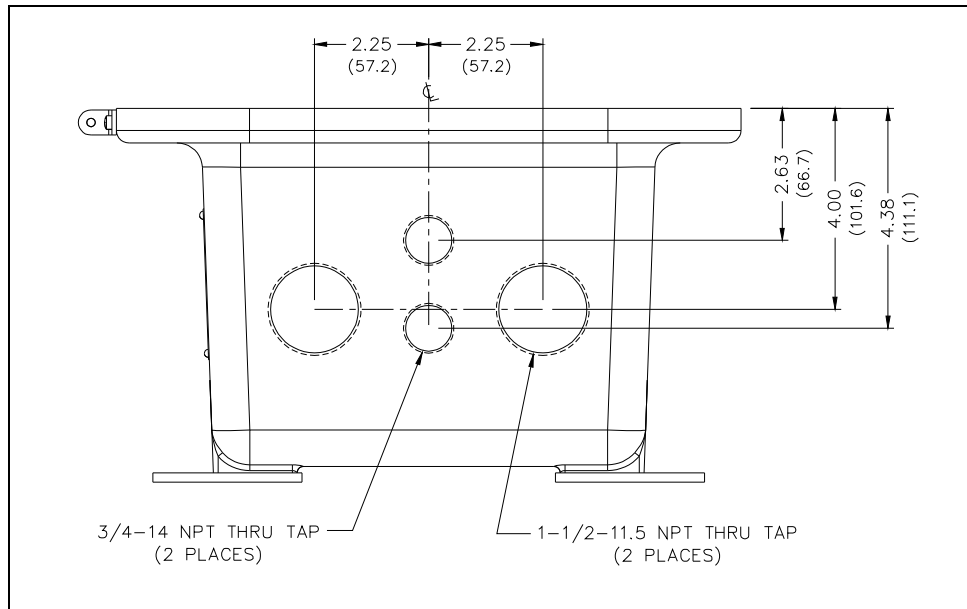
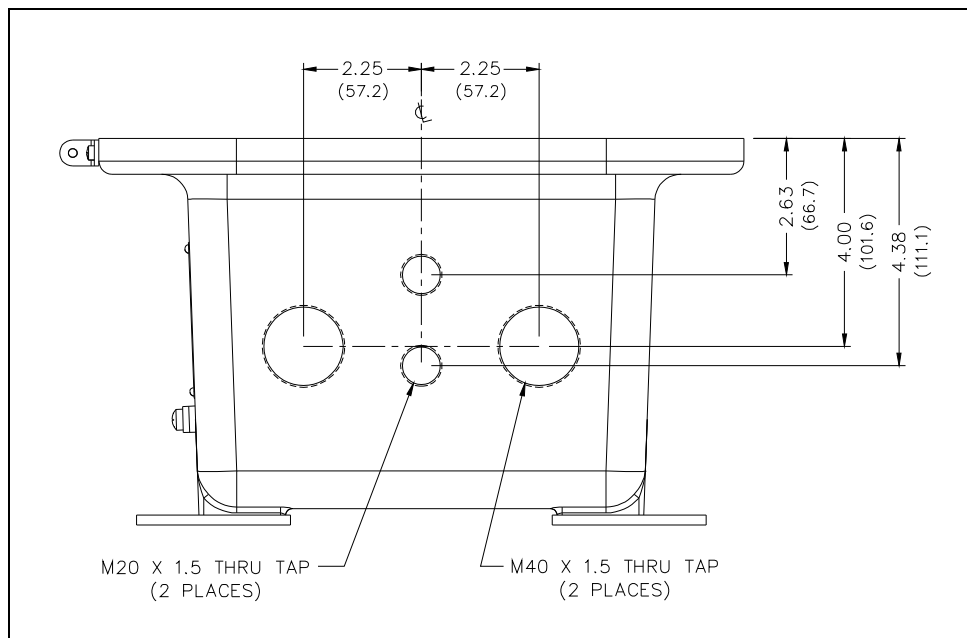

Figure 4. Standard NPT Conduit Entries
Figure 5. Standard Metric Cable Gland Entries
- The enclosure is supplied with standard NPT conduit (see Figure 4) or metric cable gland entries (see Figure 5).